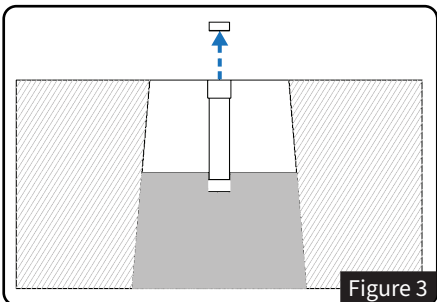

Figure 3
- Insert **Anchor Sleeves (B)** into the concrete. See *Figure 3*.